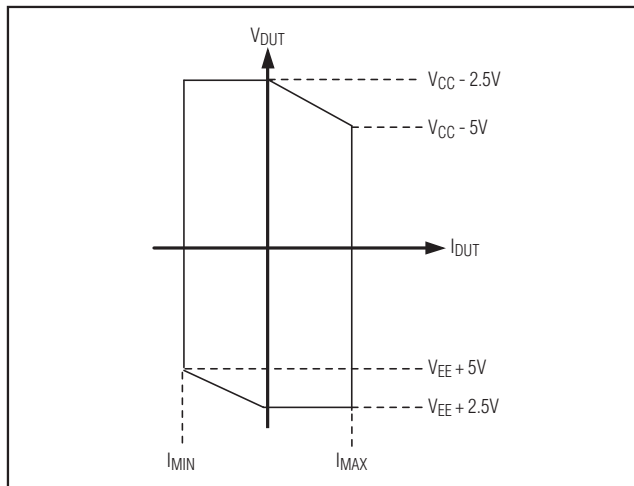

Figure 2. Output Swing
- 2) The voltage drop across the sense resistor and internal circuitry in series with the sense resistor. At full current the combined voltage drop is 2.5V, 1V across the resistor and 1.5V across the switches. This voltage is not all in addition to the overhead requirement. There is some overlap of the two effects; see Figure 2.
Neglecting the effects of items 3 and 4, the output capabilities of the DPS are demonstrated by Figure 2.
Figure 2 shows that for zero DUT current, the DUT voltage swing is from ($V_{EE} + 2.5V$) to ($V_{CC} - 2.5V$). For positive DUT currents, the maximum voltage drops off